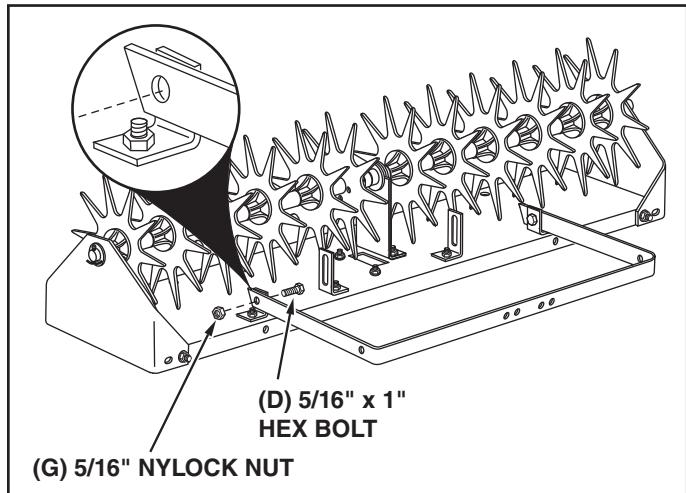

FIGURE 2
2. Assemble the axle bracket to the **outside** of the angle brackets using two 5/16" x 1" hex bolts (D) and 5/16" nylock nuts (G). The ends of the axle bracket must point as shown in figure 2. **Tighten** and then loosen the nuts 1/4 turn.